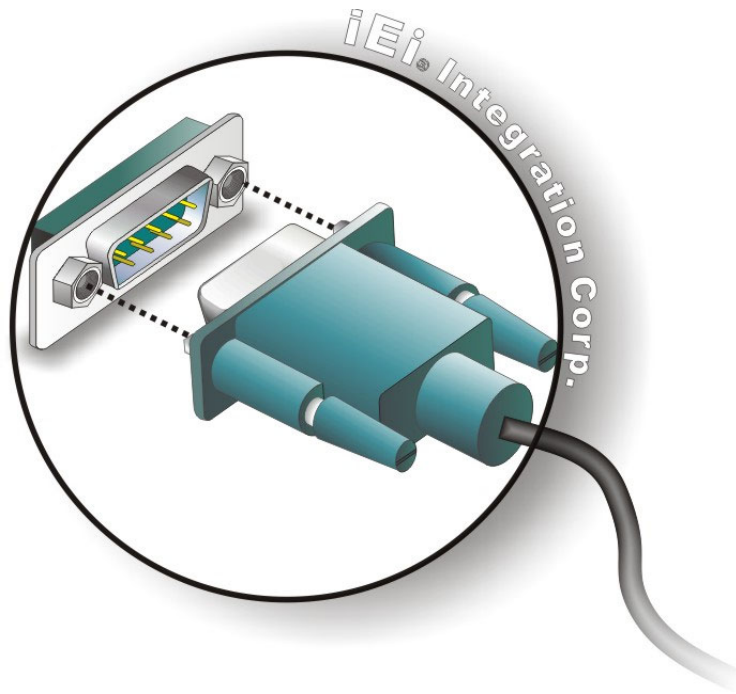

Figure 4-21: Serial Device Connector
Step 2: Insert the serial connector. Insert the DB-9 connector of a serial device into the DB-9 connector on the external peripheral interface. See **Figure 4-21**.